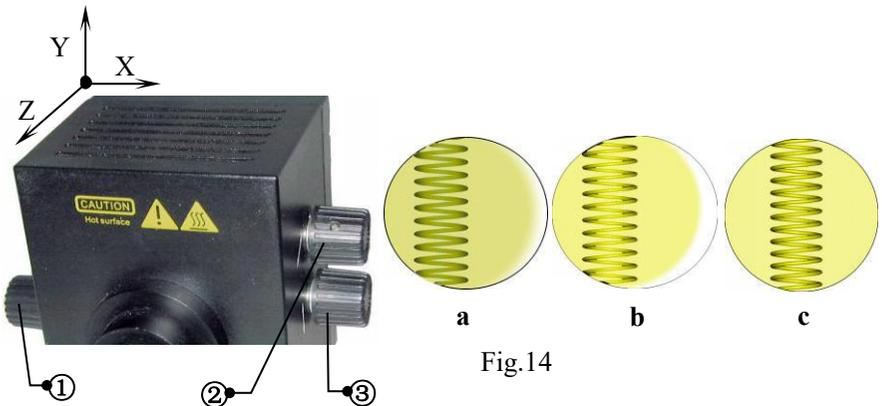
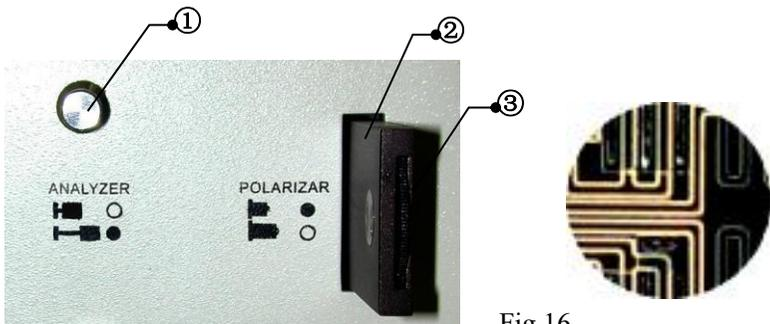
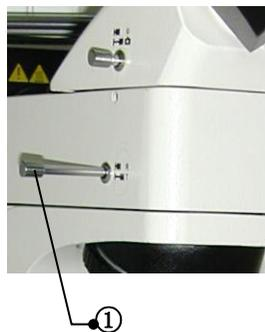

Fig.14
Fig.16
Fig.17
b. If the field of view brightness asymmetry, you should adjust the position of light bulb to collector lens. Can use collector lens adjusting knob ① and light bulb centering knob ②,③ to adjust the light bulb position. First, take out any objective from nosepiece, put a piece of white paper on the glass plate of stage, a light spot with filament image will display on the paper, like fig.14-a. Adjust the lens adjusting knob ① to make the filament image clear, like fig.14-b. If the filament image offset the center of light spot, like fig.14-c. you can adjust the light bulb centering knobs, the knob ② is used for left and right adjustment (X axis), the knob ③ is used for up and down adjustment (Y axis). After adjusting, the filament is in the center of light spot. Like fig.14-c.
the analyzer and polarizer are orthogonal polarization, the micro-image or field of view is best dark. See fig.16
The microscope can be observed in dark field. Pull out the bright or dark field switch push rod ① (See fig.17) , open field diaphragm and iris diaphragm to maximum, the analyzer and polarizer are located on the position, like mark “**■** ○” and “**■** ○” (See fig.16). When observe in dark field, you can adjust the lens adjusting knob ① (See fig.14) to obtain satisfactory dark field illumination effect.